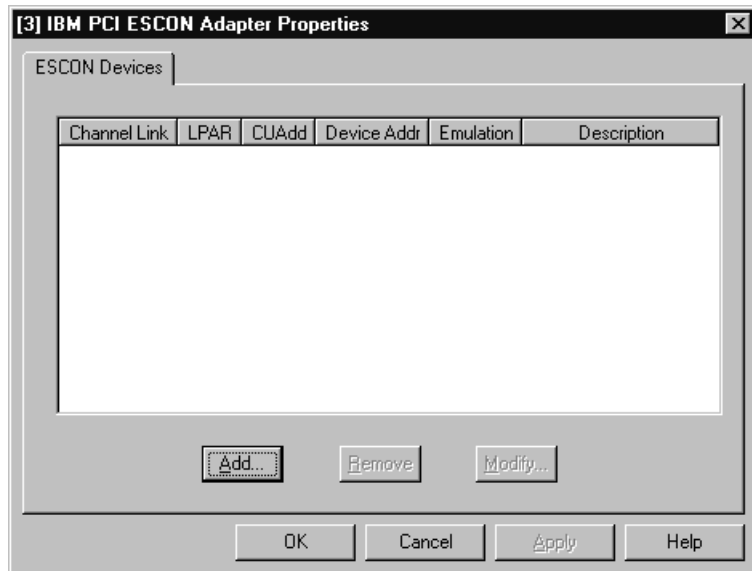

Figure 3-10. ESCON Adapter Properties
6. The system installs the adapter driver and returns an ESCON configuration screen (Figure 3-10). You may define your ESCON configuration now or you may define it at any time following installation. Chapter 4 describes the ESCON Configuration process in detail.